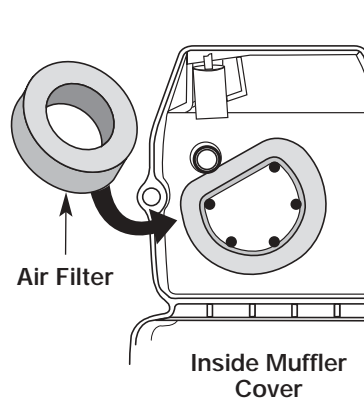

Figure 27
2. Turn cover over and look inside to locate the air filter. Remove the air filter from inside the air filter/muffler cover. See Figure 27.
6. Replace the air filter inside the air filter/muffler cover. See Figure 27.